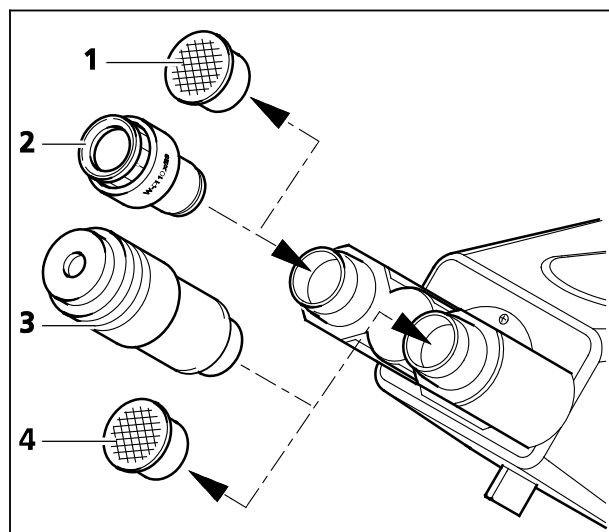

Fig. 15 Inserting eyepieces
- Remove the two dust caps (Fig. 15/1 and 4) from the binocular tube.
- Remove the two eyepieces (Fig. 15/2) from their cases and insert them into the binocular tube as far as they will go.
- The auxiliary microscope (Fig. 15/3), which is used to view the aperture stops and phase stops and to center the phase stops, can be inserted in one of the tubes in place of one of the eyepieces. The adjustable eyepiece lens can be used to focus on these stops.